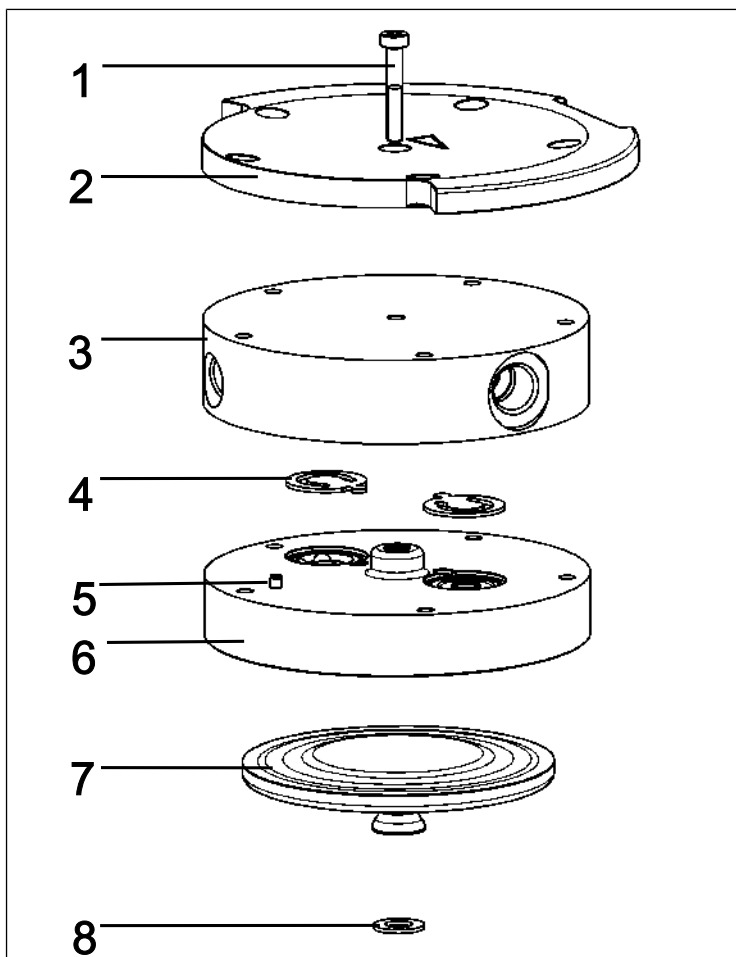

Fig.13: Pump head (pump N820 shown)
- i** The two internal head screws (1/ Fig. 13) remain tightened for the time being.
i The following item numbers refer to Fig. 13, unless specified otherwise.